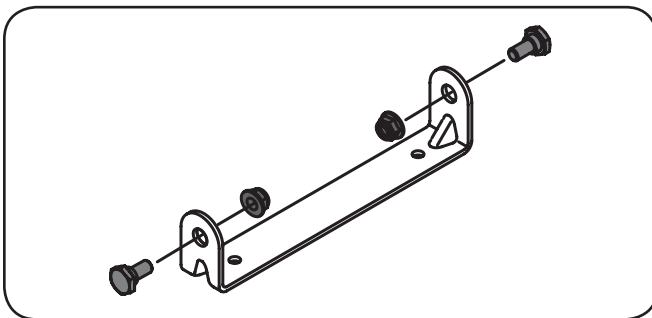

Figure 3-4
1. Remove the shoulder bolts and lock nuts from the seat mounting bracket included in your hardware pack. See Figure 3-4.